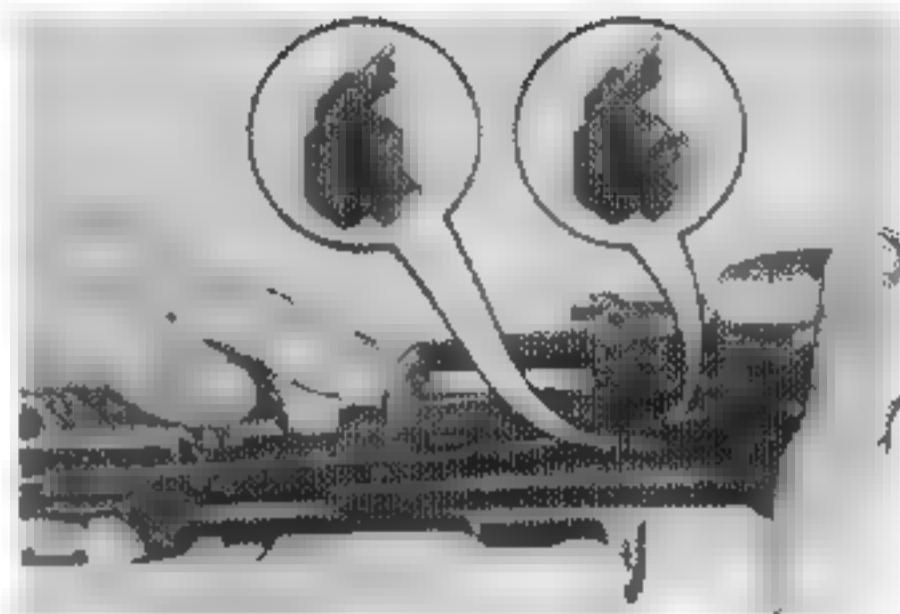
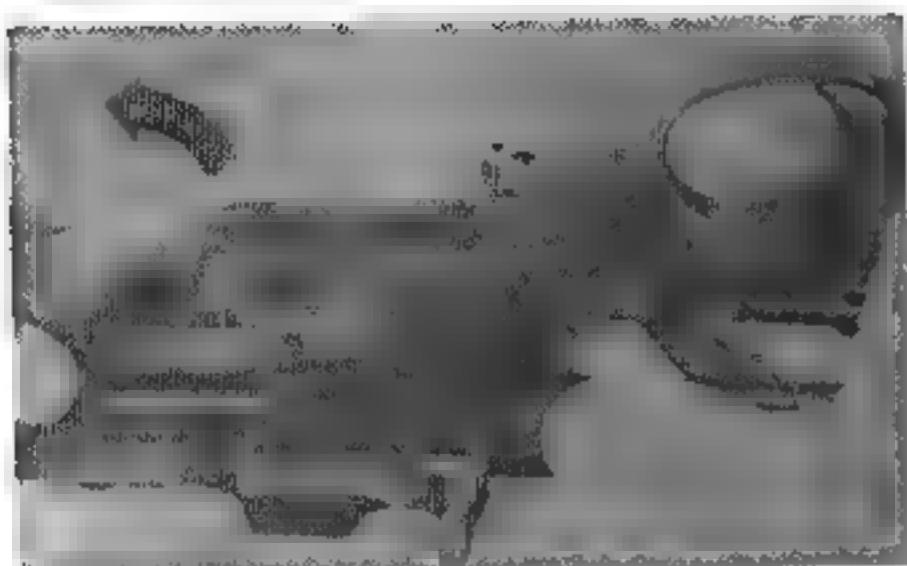

Figure 9. Removing the disconnector lever assembly.
Figure 10. Removing the disconnector lever assembly
h. To remove the disconnector lever assembly, push on the trigger housing and selector pin, unseating the disconnector lever (Fig. 9). Remove the disconnector lever assembly. If the disconnector on your weapon has a slotted groove instead of a shoulder, disengage the rear end of the disconnector lever before attempting to remove the disconnector lever assembly. To do this, unseat the disconnector lever assembly and then rotate the crank forward, disengaging the rear end of the disconnector lever from the slotted groove of the disconnector (Fig. 10). Now, remove the disconnector lever assembly.